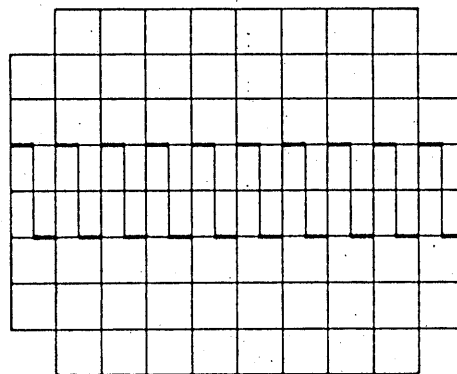

Fig. 5
- 3) Connect the signal of the CAL (1 Vp-p) terminal to the vertical INPUT terminal (17) using the lead with BNC connector or other appropriate cord.
- 4) Set the  GND (20) switch in the popped up state (), and so adjust the LEVEL knob (26) that the displayed waveform becomes stationary. A waveform as shown in Fig. 5 should be displayed on the CRT screen.